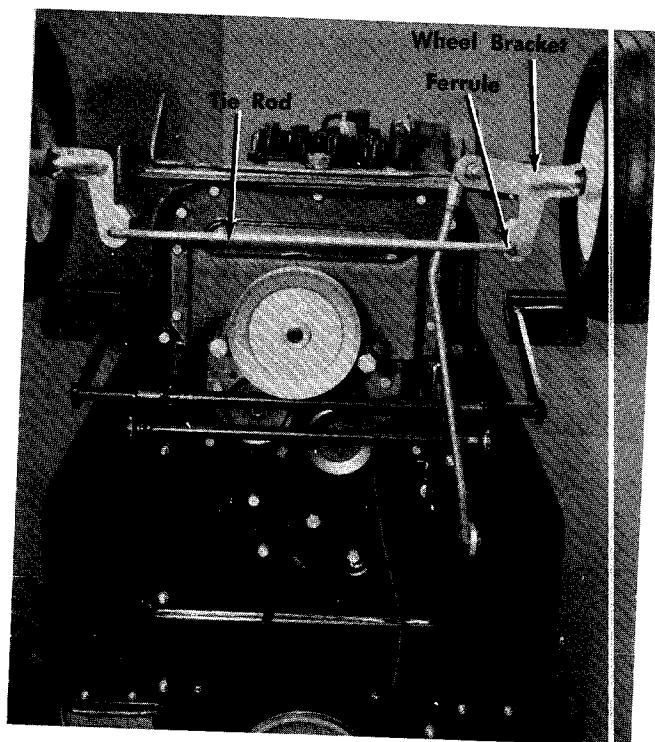

FIGURE 37.
The caster (forward slant of the king pin) and the camber (tilt of the wheels out at the top) require no adjustment. Automotive steering principles have been used to determine the caster and camber on the mower. The front wheels should toe-in  $\frac{1}{8}$  inch. See figure 37. To adjust, follow these steps:
1. Remove the cotter pin holding the ferrule to the axle bracket. See figure 37.